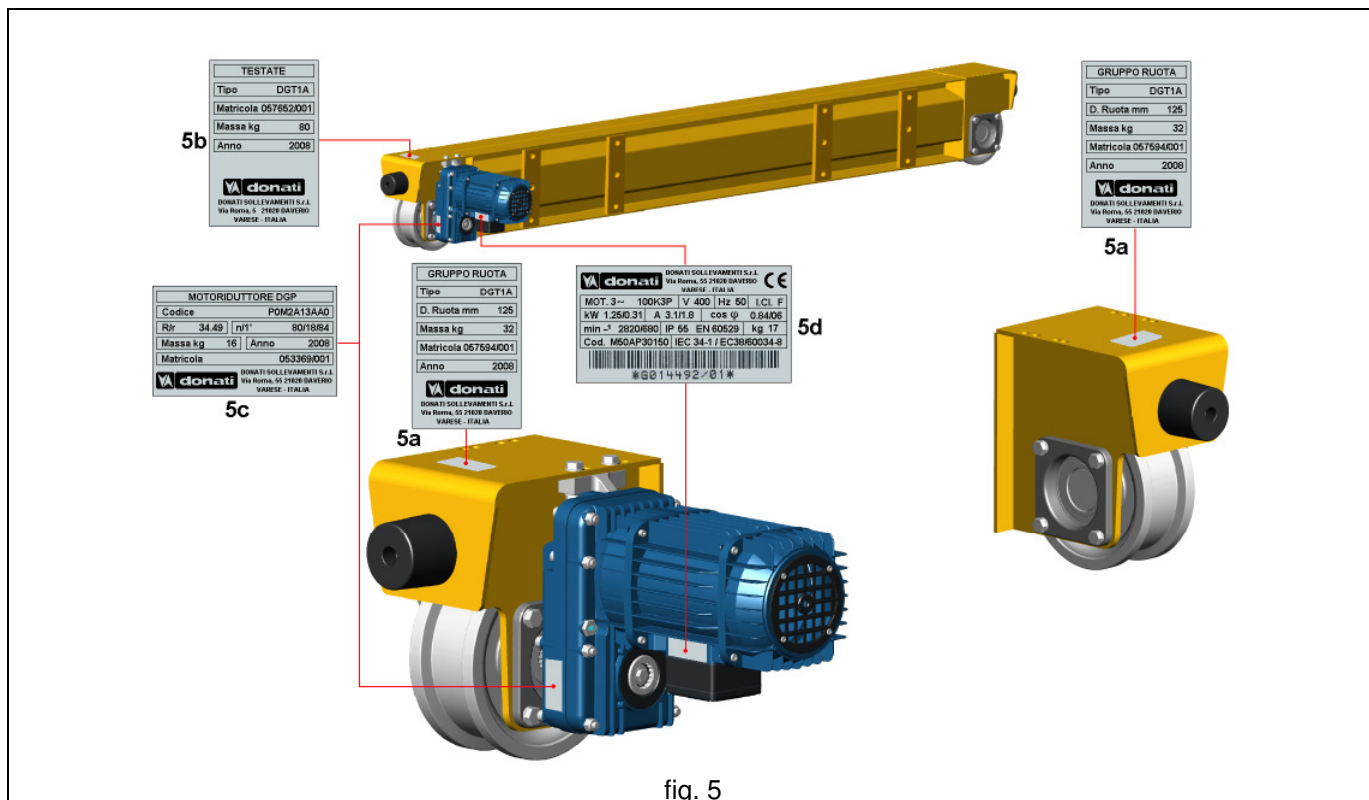

fig. 5
- **“DGT” drive units and endcarriages** are equipped with the following identification nameplates (fig. 5):